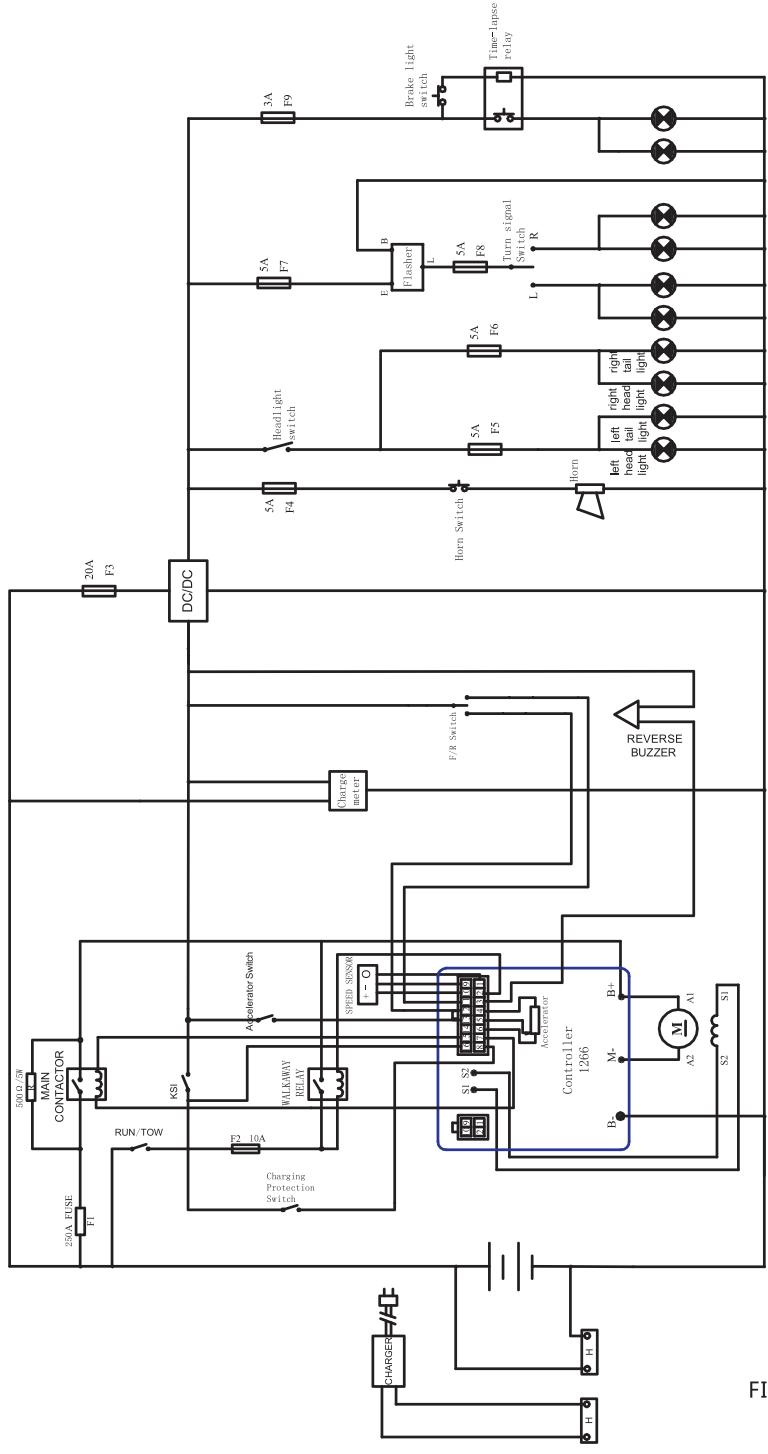

FIG.2
2)Wiring diagram for vehicle 48V with Curtis Controller 1266 (FIG.2)